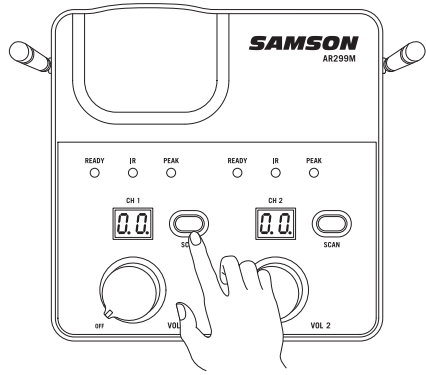

Figure 1
4. Press the CH 1 SCAN button for more than 2 seconds (the display will start to flash quickly) on the front of the AR299m receiver to scan for an available channel. Once the optimal channel is selected the receiver will enter IR Set mode. The display will flash slowly in IR Set mode. If you want to set a transmitter to the receiver’s currently selected channel, press and hold the SET button for more than 10 seconds (until the display flashes slowly) to enter IR Set mode directly. (figure 1).